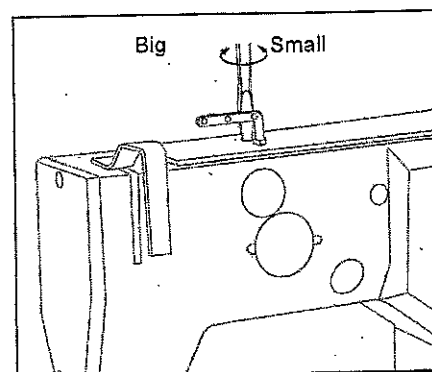

Fig.15
23. The presser foot pressure adjustment (Fig.15)
2) Adjustment as shown in Fig.15.